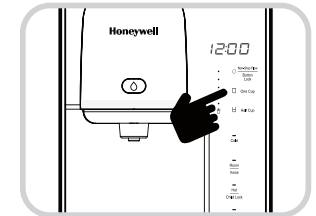
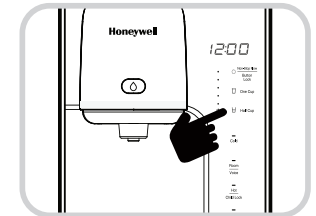

Fig. 7
Fig. 8
2. Set the desired amount of out flow by pressing the One Cup or Half Cup. (Fig. 7) (Fig. 8).